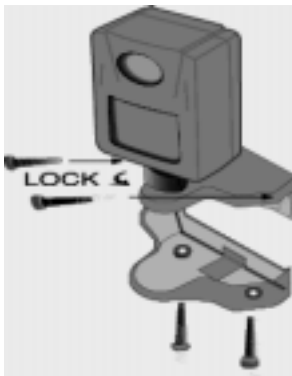

Figure 3
- Mark and drill out the camera screw holes and fix the camera to the wall using the plugs and screws provided. After positioning the front of the camera at an optimum direction allowing maximum coverage, turn the locking nut clockwise to lock the camera in position. (see figure 3).